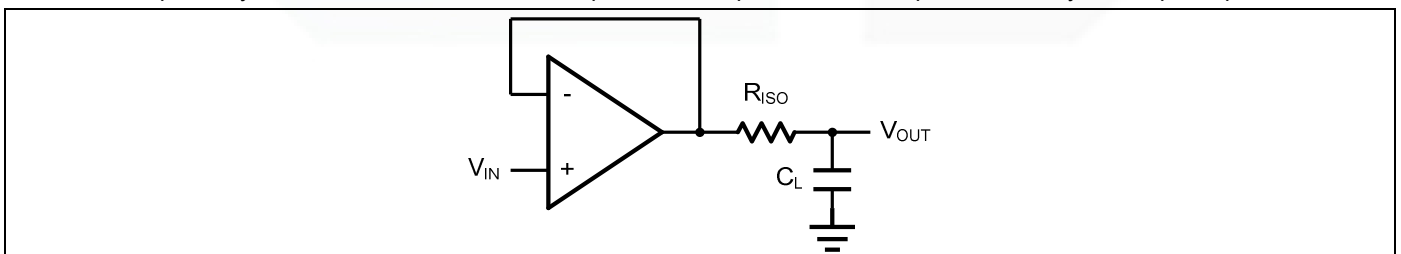
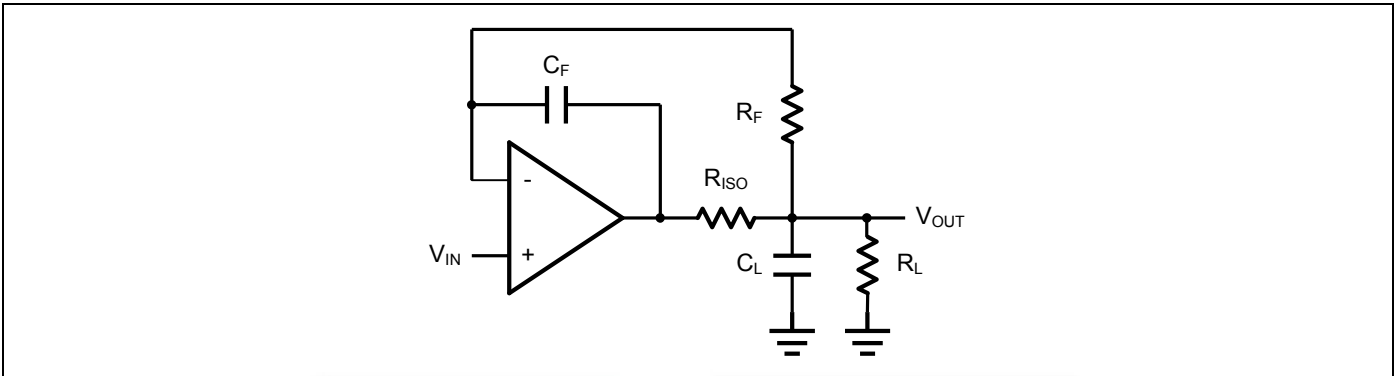

Figure 2. Indirectly Driving a Capacitive Load Using Isolation Resistor
Figure 3. Indirectly Driving a Capacitive Load with DC Accuracy
The GS8634C is optimized for bandwidth and speed, not for driving capacitive loads. Output capacitance will create a pole in the amplifier's feedback path, leading to excessive peaking and potential oscillation. If dealing with load capacitance is a requirement of the application, the two strategies to consider are (1) using a small resistor in series with the amplifier's output and the load capacitance and (2) reducing the bandwidth of the amplifier's feedback loop by increasing the overall noise gain. Figure 2. shows a unity gain follower using the series resistor strategy. The resistor isolates the output from the capacitance and, more importantly, creates a zero in the feedback path that compensates for the pole created by the output capacitance.
The circuit in Figure 3 is an improvement to the one in Figure 2.  $R_F$  provides the DC accuracy by feed-forward the  $V_{IN}$  to  $R_L$ .  $C_F$  and  $R_{ISO}$  serve to counteract the loss of phase margin by feeding the high frequency component of the output signal back to the